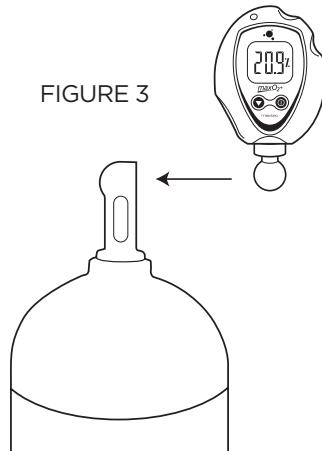

FIGURE 3
Reinsert the three screws and tighten until the screws are snug. (FIGURE 3)
**HELPFUL HINT:** Be sure to orient the new sensor by aligning the red arrow on the sensor with the arrow in the back case. A small tab is located on the back case that is designed to engage the sensor and prevent it from rotating within the case. (FIGURE 3)